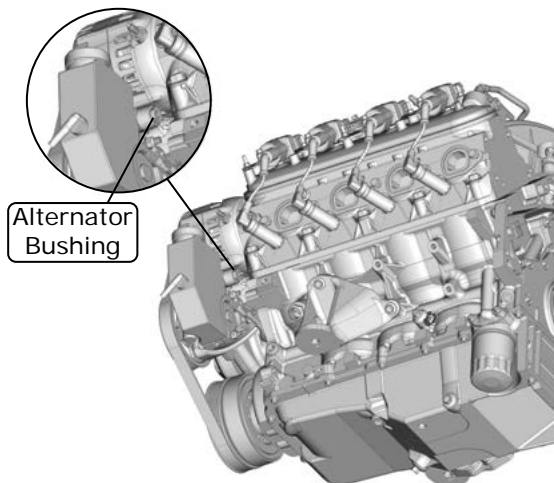

Figure 2
5. Torquing 3/8-16 bolt will cause threaded bushing in rear ear of casting to slide forward to capture lower alternator boss (See Figure 2, below).